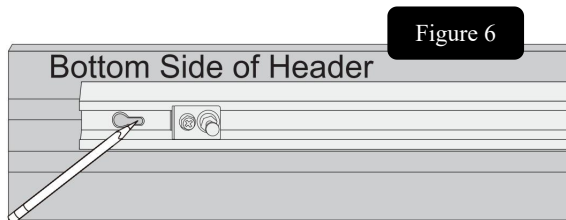

Figure 6
Step 6: Use a pencil to mark the places where holes are to be drilled. (Figure 6)